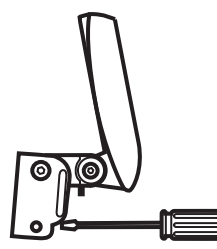

Figure 10
4. In order to gain access to the mounting screws, the transducer assembly must be pivoted up in the bracket as shown in Figure 10. Be careful not to alter the running angle as some force is necessary to pivot the assembly.